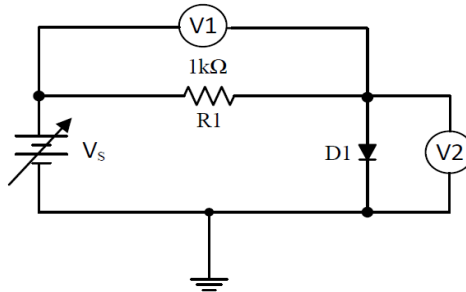

Figure 1
1. Setup the circuit given in Figure 1 for the component of 1N4001. Apply eight different input voltages and write down the measured voltage values (V1 & V2) to Table 1.